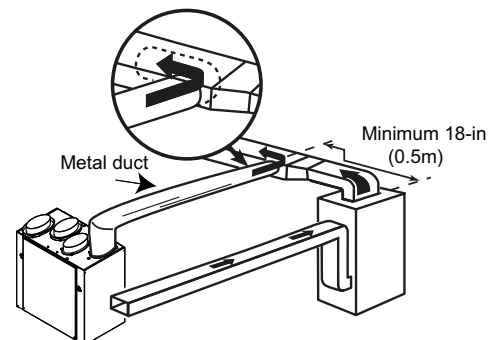

Fig. 11 - Main supply leading to registers
- Connect this opening to the **Fresh air distribution** port of the unit (use **metal duct**, see Fig. 11).